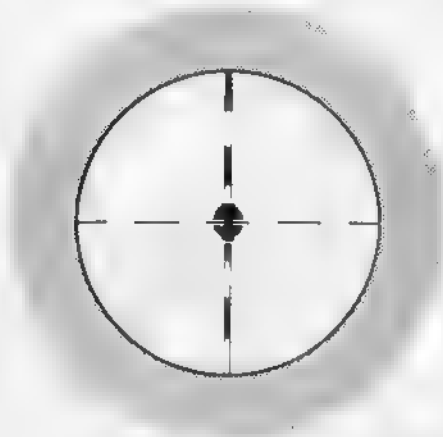

Fig 14.—Correct aim picture (telescope)
- 78. *Telescope.* (See Fig 14 for the correct aim picture.) *Explain and demonstrate.* The telescope is mounted on the top of the dial sight and can be moved up and down. When in the desired position it can be locked by means of a clamp lever. The eyepiece can be rotated so that the open sight can be used for rough alignment. A corrector to reduce laying errors is fitted to the front of the telescope.